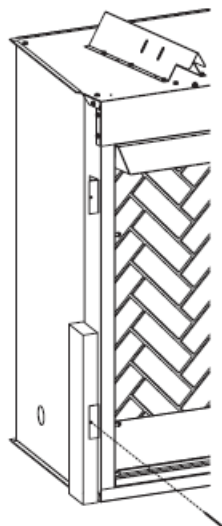
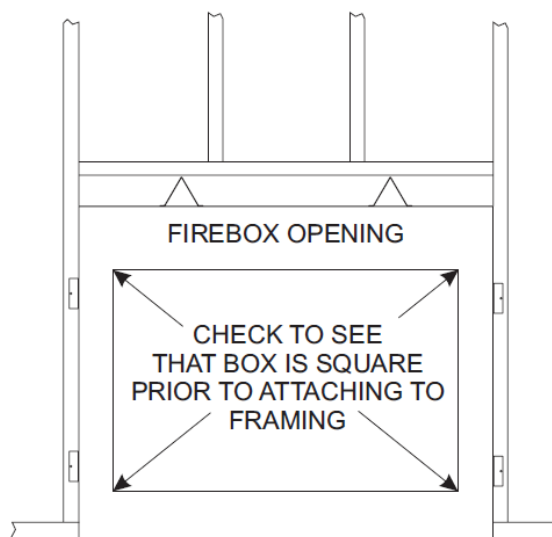

Figure 7
Figure 8
Place firebox in framing opening. Use the four (4) framing brackets provided on the firebox to attach firebox to framing. Different hole locations can be used for finishing materials with thicknesses of 3/8", 1/2" and 3/4". Attach these materials with screws provided, two (2) per framing bracket. See Figure 7. Framing brackets should fit directly against framing material. Use at least one (1) nail per bracket to secure in place. Check squareness of the firebox prior to securing to framed opening. See Figure 8.